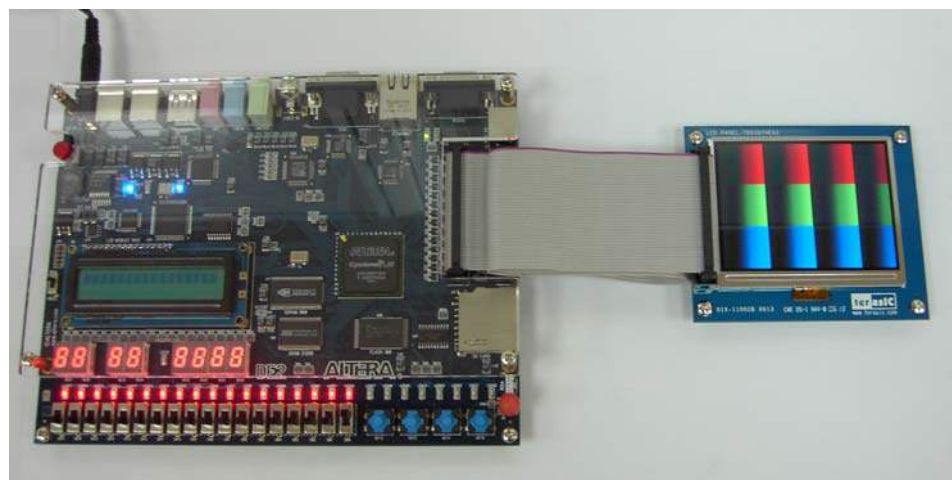

Figure 3.3. The connection setup for the pattern generator demo
1. Ensure the connection is made correctly as shown in Figure 3.3. Make sure the IDE cable is connected to JP1 of the DE2/DE1 board.